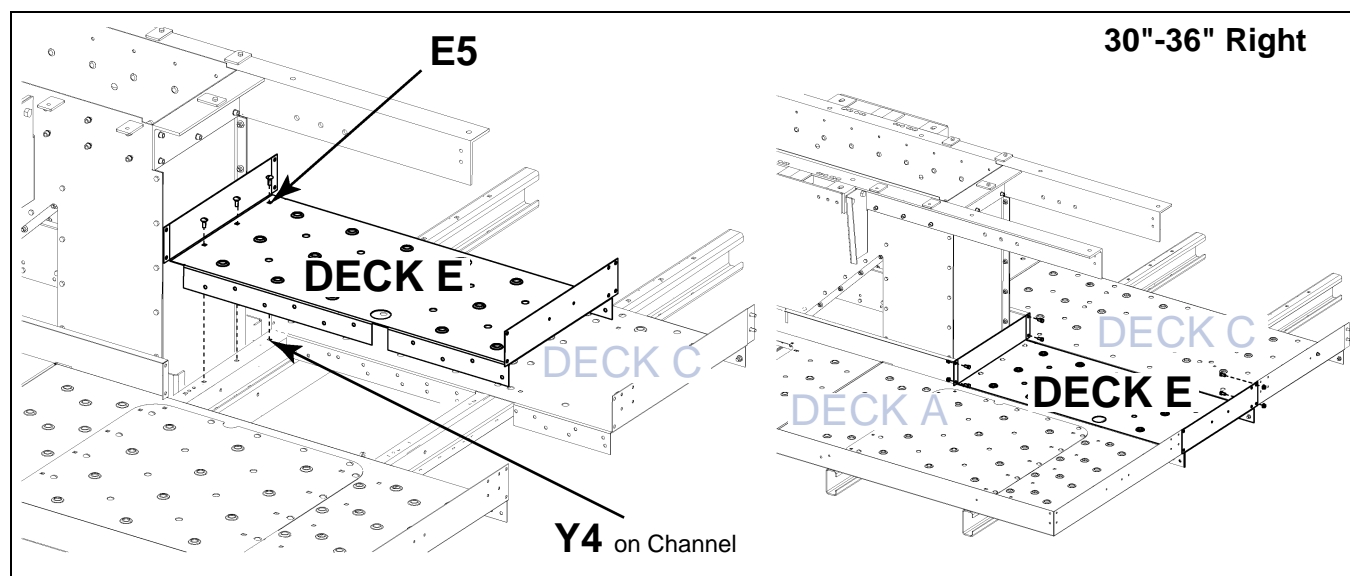

Figure 8O
1. Place Deck E between Deck A and Deck C. (See Figure 8O.)
4. Connect the Deck E kick plate flanges to toe boards and flanges of Deck A and Deck C using 3/8" x 3/4" bolts (S-7105) and 3/8" nuts (S-10028). (See Figure 8O.)